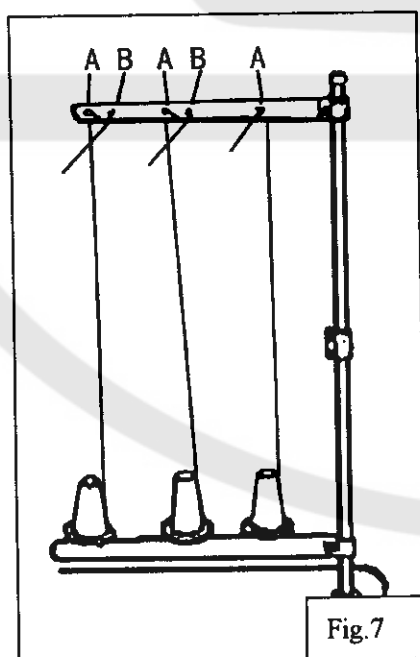
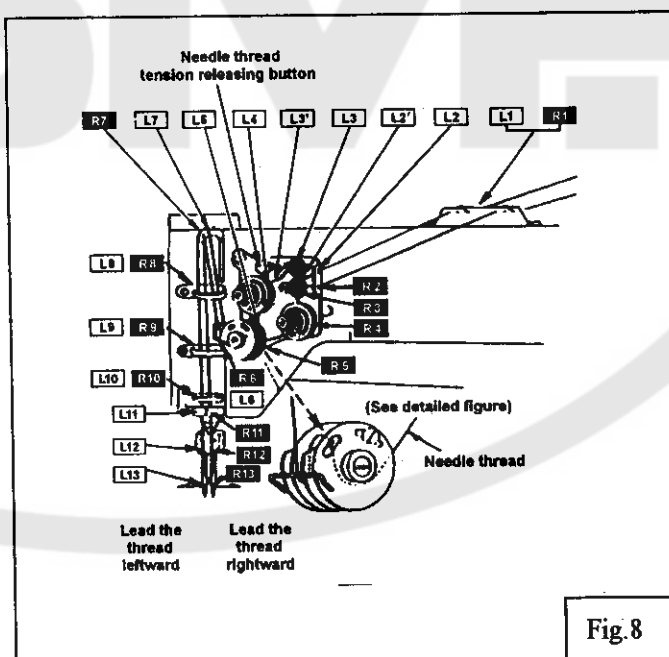

Fig.7
Fig.8
4. How to route the upper thread (Fig.7, Fig.8):
Note: when thin slippery thread (polyester thread for example) is used pass the thread through thread guide B as show in Fig.7
- 2) With the take-up lever located at the upper most position, pass each thread in the order in Fig.8.